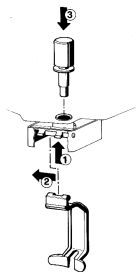

figure 6
- 3 - **Gravity faucet:** install the faucet handle (1-2) and the piston with its gasket (3) (see figure 6).